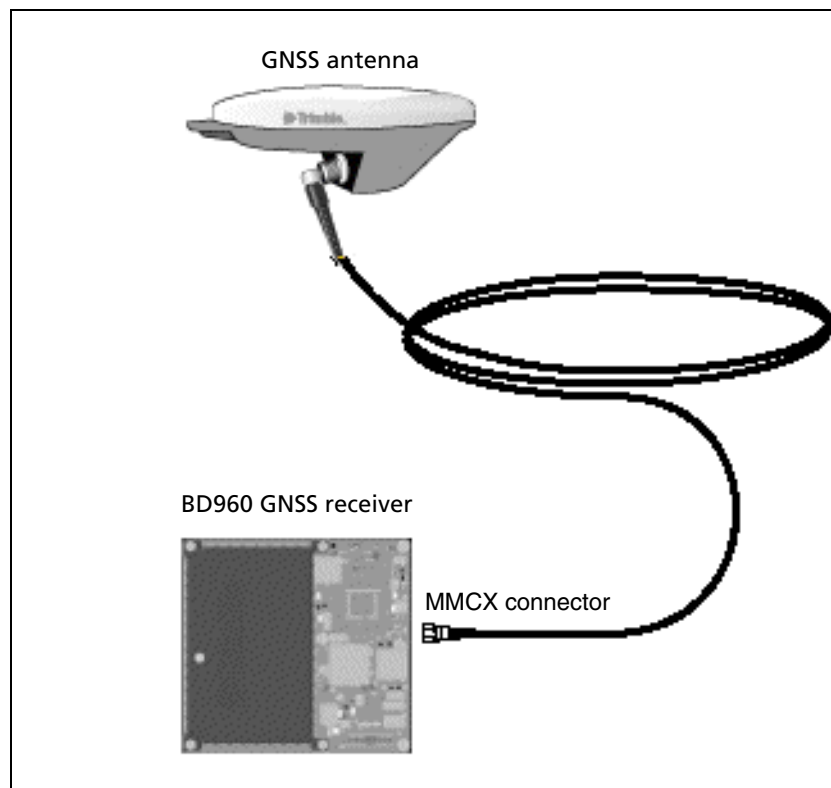

Figure 3.1 BD960 receiver on Eurocard PC board
Figure 3.1 shows the setup for a BD960 receiver.
1. Mount the antenna and then route the antenna cable from the GPS antenna to the BD960 receiver (see Figure 3.1). Avoid the following hazards when routing the antenna cable: